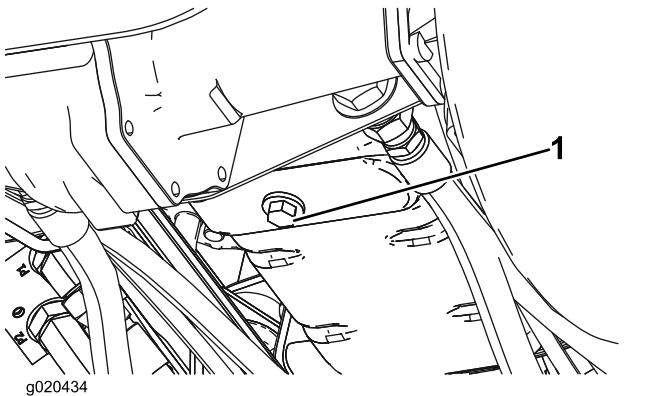

Figure 74
1. Remove the drain plug (Figure 74) and let the oil flow into a drain pan. When all the oil is drained, install the drain plug.